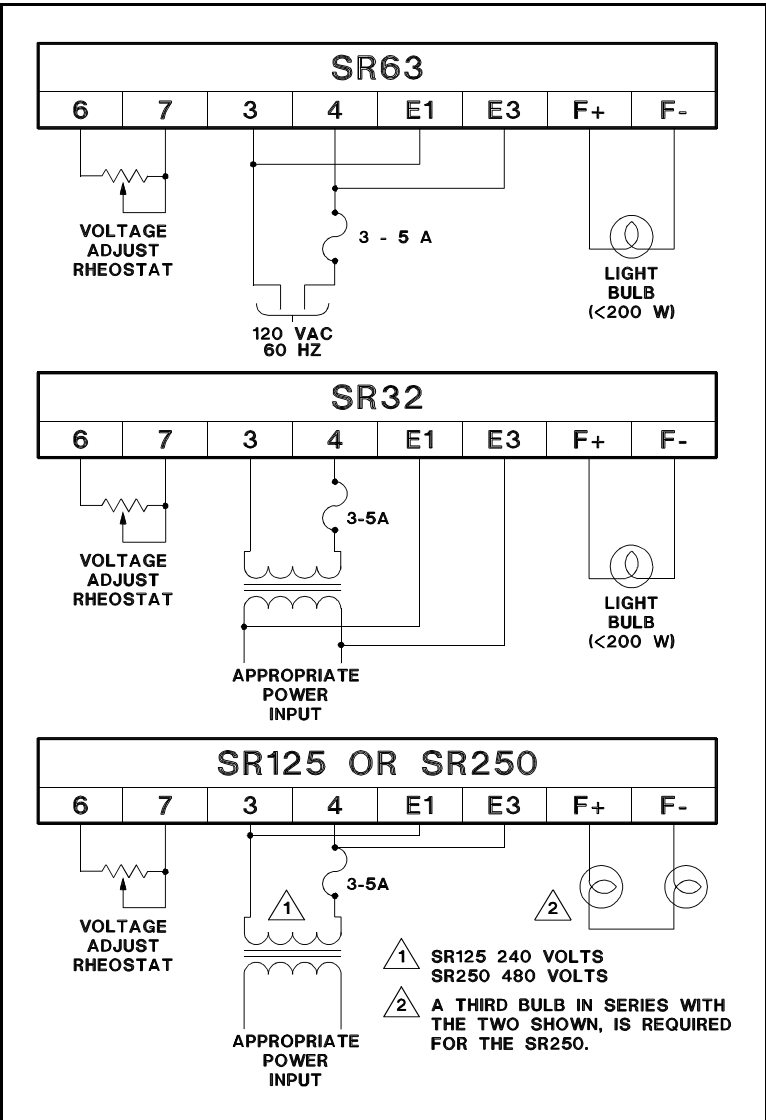

Figure 5-1. Operational Checkout.
If trouble is to be avoided during initial operation, the importance of eliminating wiring errors cannot be over-emphasized. The voltage regulator cannot operate properly until it is connected correctly and may be damaged or even fail if operated while incorrectly connected. An effective test, used to determine if the regulator is basically operational, is given below (Refer to Figure 5-1).
- b. Connect as shown in Figure 5-1. Identical 120 V light bulbs should be used. (Any wattage below 200 W is satisfactory.)